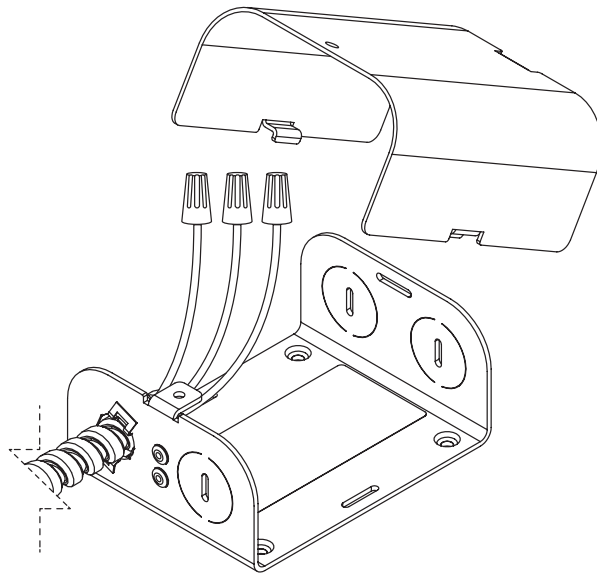

fig. 11
2. Using one of the provided knockouts, run appropriate wire for branch load, 3 wire cable to the fixture (see fig 11).